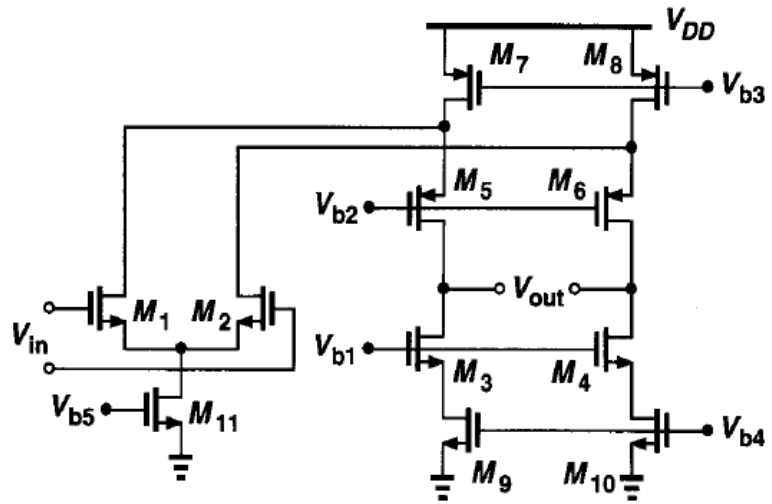

Figure 2
- a) What is the name and function of the circuit shown in figure 2? (2 points)